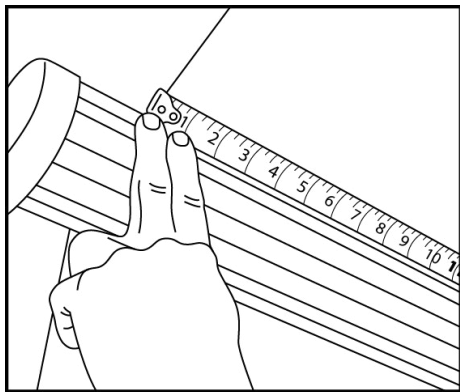
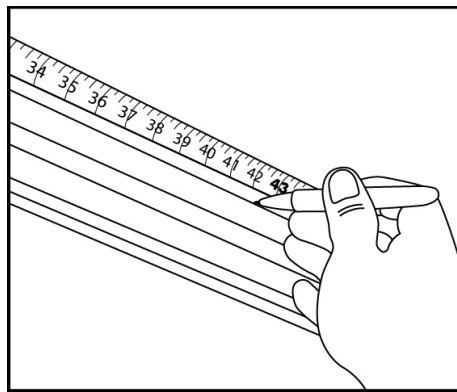

Fig.20
Fig.21
1. With the awning fully extended, measure the distance calculated using the chart on the previous page from the edge of the awning fabric. **(Fig.20)**. Mark the roller tube at that predetermined distance and 1/2" down from the fabric seam. **(Fig.21)**. This is where the first Awnbrella arm will later be installed. Continue